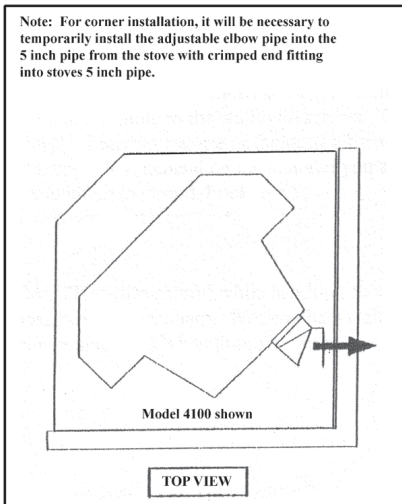

Figure 2.
4. Project both a horizontal and a vertical centerline of the stove's combustion air intake pipe. (See Figure 1.) For a corner application, determine by measuring the horizontal centerline location of the elbow. (See Figure 2) On the same centerline mark a center point on the wall. Using the point marked on the wall as a center point, cut a 5 inch hole (or 6 inch, depending on model) through the exterior wall. This can be accomplished with a variety of tools. Your needs will vary depending upon what type of material you'll be going through.